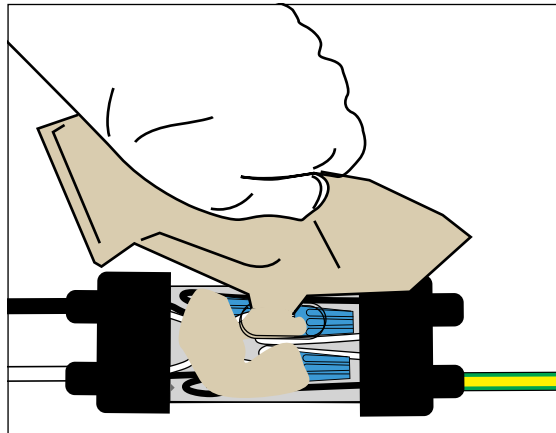

Figure 11. Pouring Sealant Into Sleeve
9. Clip off a corner of the pouch and slowly squeeze the sealant into the open slot in the sleeves, ensuring the wire nuts are completely immersed in the sealant. Stop just short of filling the entire sleeve. Do not overfill (see Figure 11).